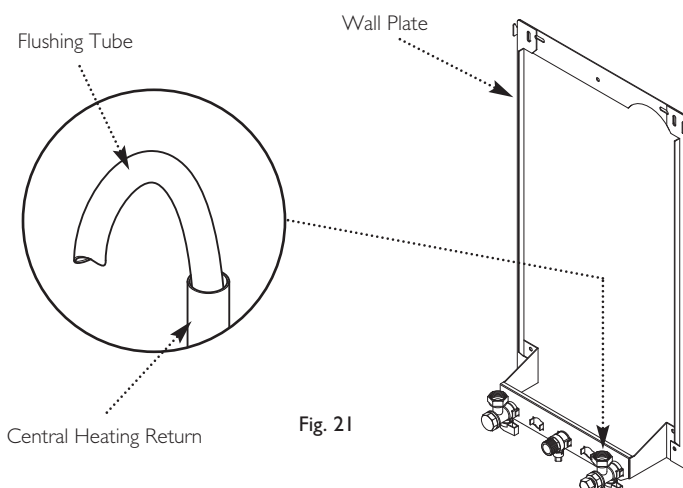

Fig. 21
1. Connect a tube to the central heating flow or return pipe (Fig. 21).